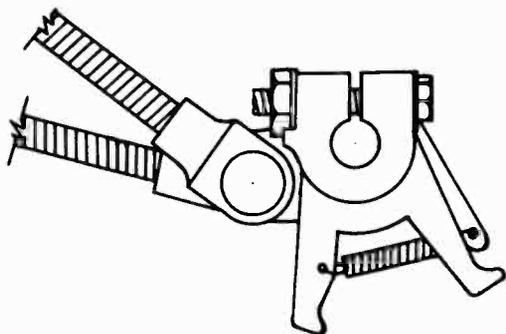

Fig. 6
Blade finger (42) looks like Fig. 6. A visual spacing of approximately  $\frac{1}{64}$  between the rounded edge of the toggle assembly and the Push-off Blade finger when viewed directly from the bottom of the record changer is required. See Fig. 6. Since these two parts lie on different planes, this adjustment must be made by observation only.
7. While holding the Push-off Blade and Record Shelf Assembly tight against the Housing (6), push the Index Toggle Assembly (41) against the spacer (40) and tighten the lock bolt.
8. Tighten the Push-off Blade bracket lock bolt, leaving approximately  $\frac{1}{64}$ " clearance between the shoulder of the Record Shelf shaft and the Push-off Blade finger bracket (42).